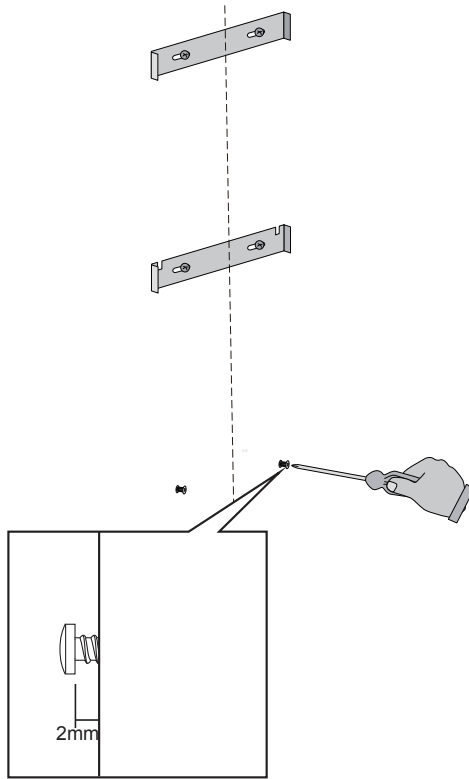

Fig.2
- Attach the upper hood mounting screws in the locations shown in Fig.2. Use the ST 4x32 mm screws and expansion plugs if attaching to masonry.